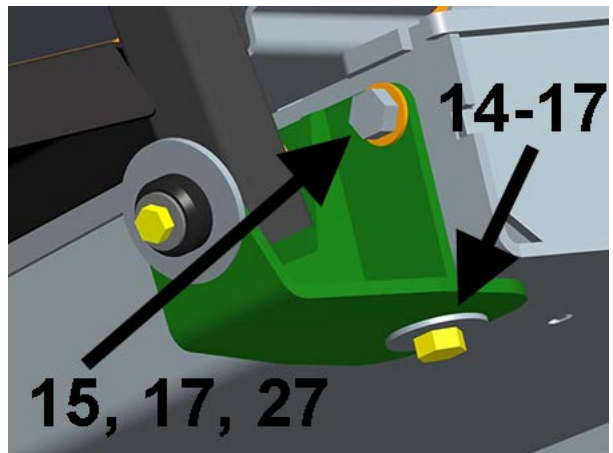

FIGURE 4
7. Secure the two front mount brackets (**Item 1**) to the bottom of the machine using hardware. Torque to 70 ft-lb (95n-m). **Figure 4**
8. Secure the brackets to the side of the machine using hardware. Torque to 70 ft-lb (95n-m). **Figure 4**